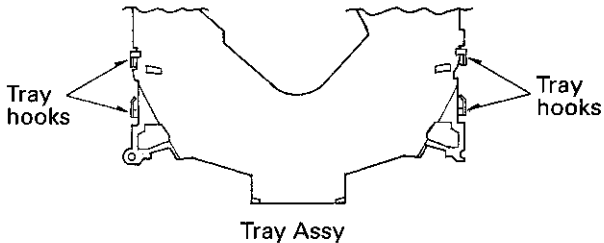

Fig. 5
1. Apply about 6V current to the Cam gear motor until all holes match at the position (A) (elevation OK position).
2. Hook the three springs B temporarily as shown in Fig. 5.
5. While pushing the Tray holder lock arms (right and left) in the direction (C), remove the Tray holder.